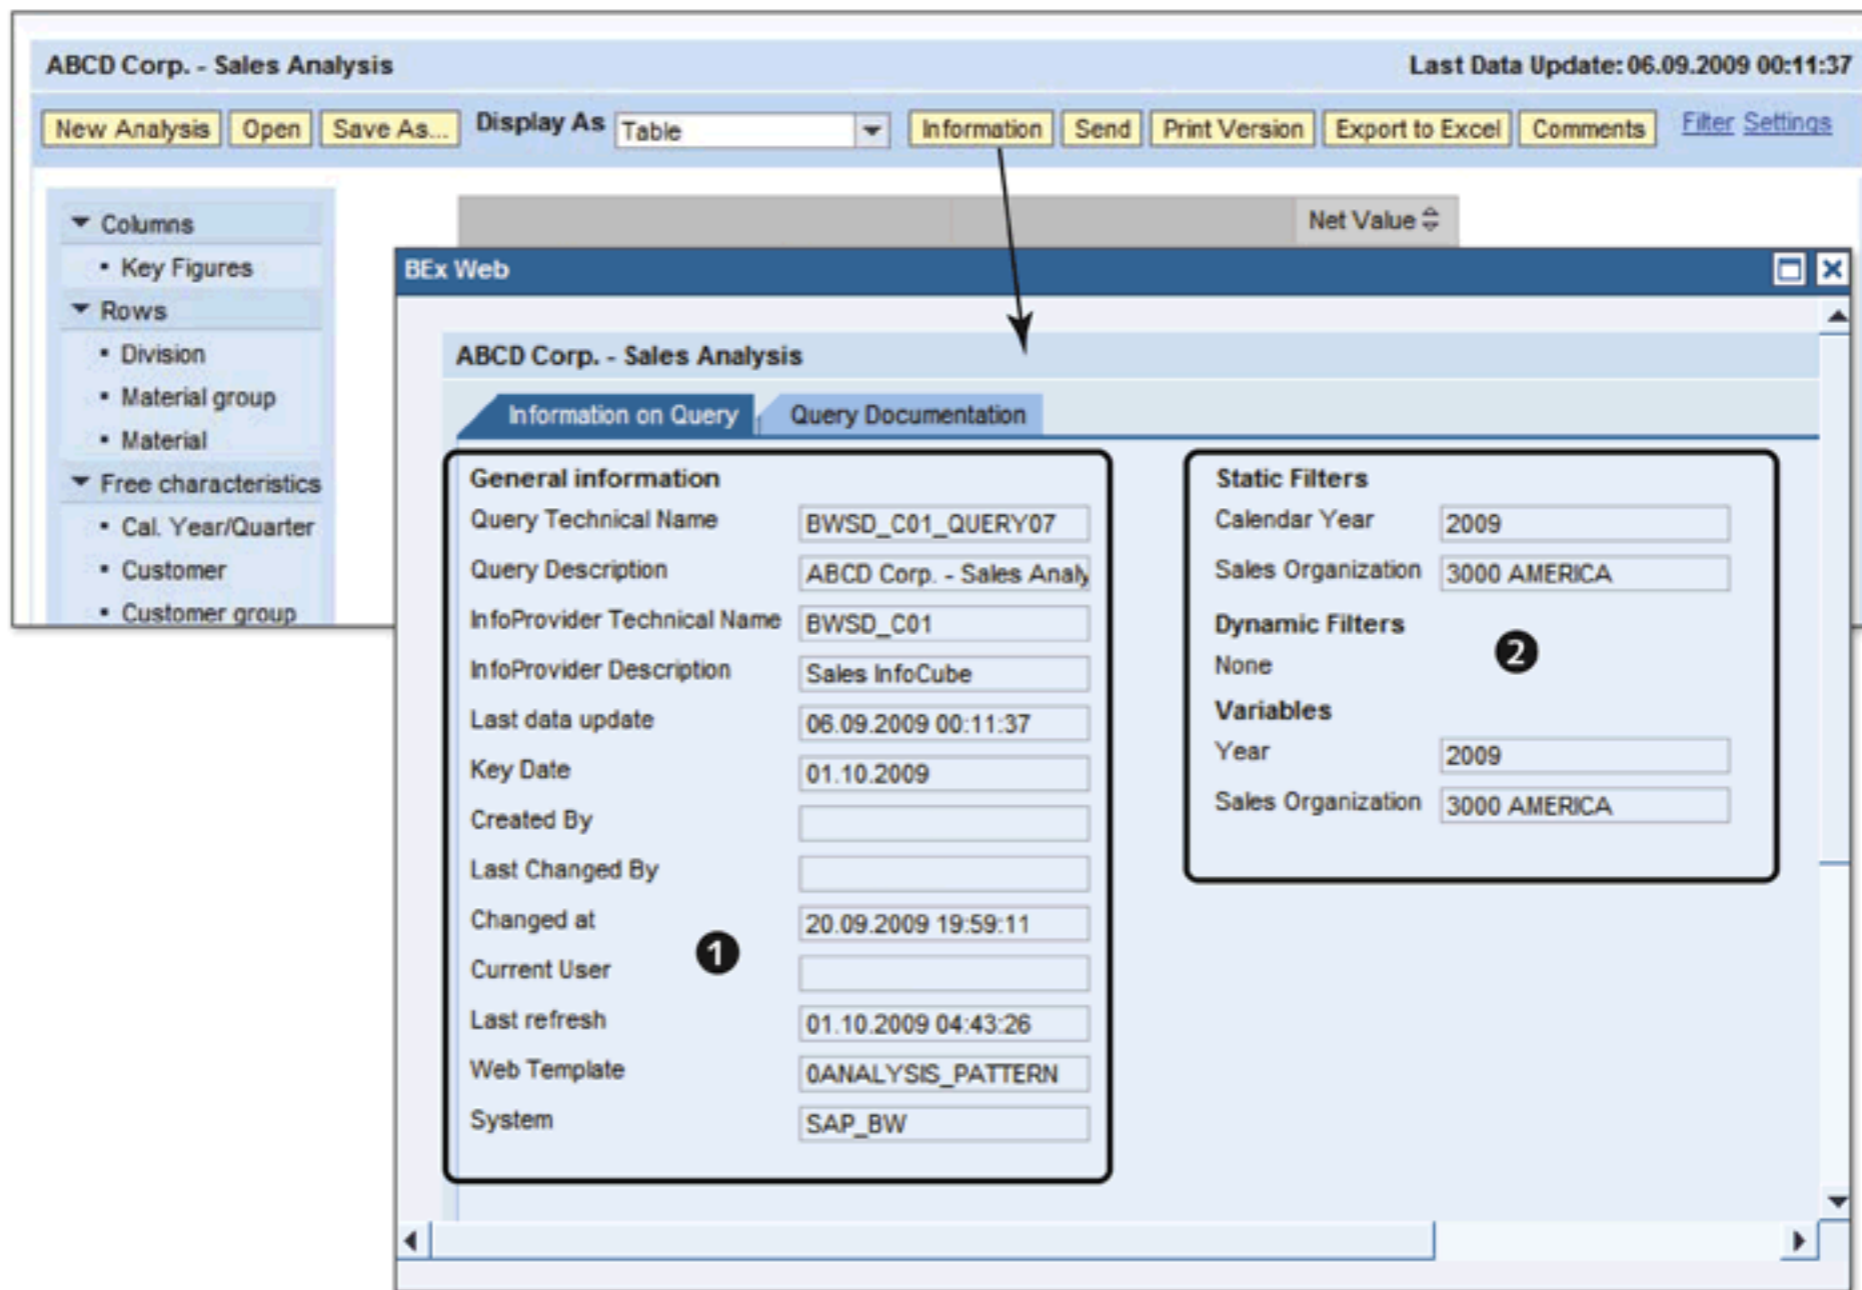

Figure 10.45 BEx Web Analyzer Function: Information
This button displays the information about the data provider used in the analysis. Apart from the metadata corresponding to the data provider (❶ of Figure 10.45), the information screen also displays the current state of filters on the data provider. This includes STATIC FILTERS, DYNAMIC FILTERS, and restrictions applied to the data provider using VARIABLES (❷).